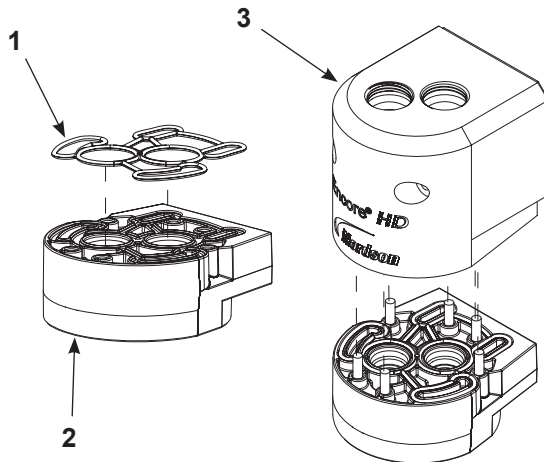

Figure 21 Assemble the Lower Y Block to Purge Manifold
1. See Figure 21. Place the customized O-ring (1) into the upper Y block (2) as shown, then fasten the upper Y block to the purge manifold housing (3) with the provided hardware.